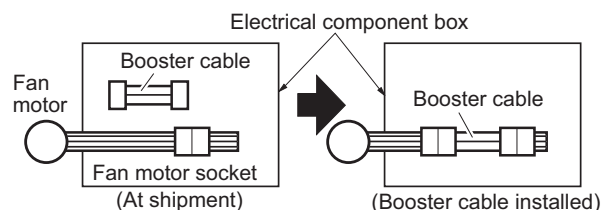

Fig. 2-158
- (1) Remove 4 screws on the electrical component box and remove the cover plate.
- (2) Disconnect the fan motor sockets in the box.
- (3) Take out 2 booster cables from option carton box (sockets at both ends).
- (4) Securely connect the booster cable's 2 sockets between the disconnected fan motor sockets in step 2 as shown in Fig. 2-158.
- (5) Place the cable neatly in the box and reinstall the cover plate.